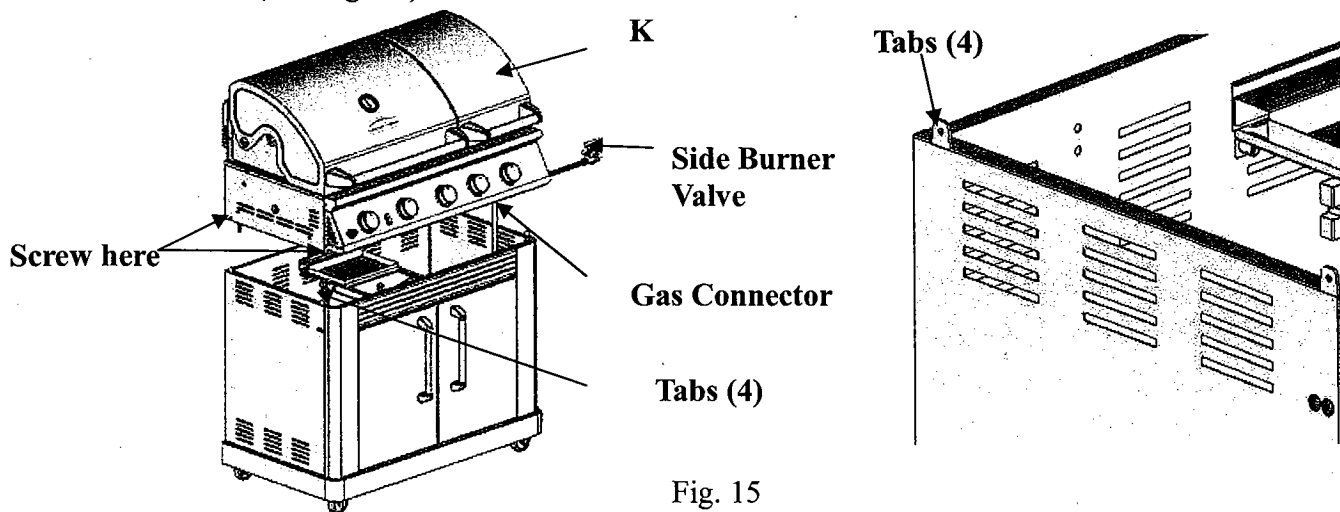

Fig. 15
- Take the pressure regulator (applicable only for LPG model) and side burner valve out from under the control box. Then lift the burner box onto the cabinet, making sure that the gas pressure regulator is in the cabinet and placed the valve on the outside of the burner box, then position burner box on the cabinet by aligning the four tabs on top of the cabinet with the holes in the burner box. (See Fig. 15)